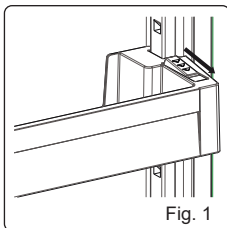

Fig. 1
(Fig.1)
1. Press the hooks on light cover. (Fig. 1)